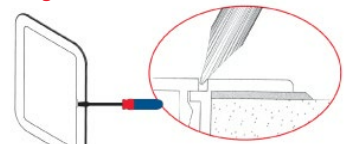

Fig.2
- To remove the door, open the door slightly (Fig. 2.) and pull away from the hinge position maintaining the door at a slight angle (Fig. 3). This does not apply to panels AP110 and AP200 which are clip fit door panels